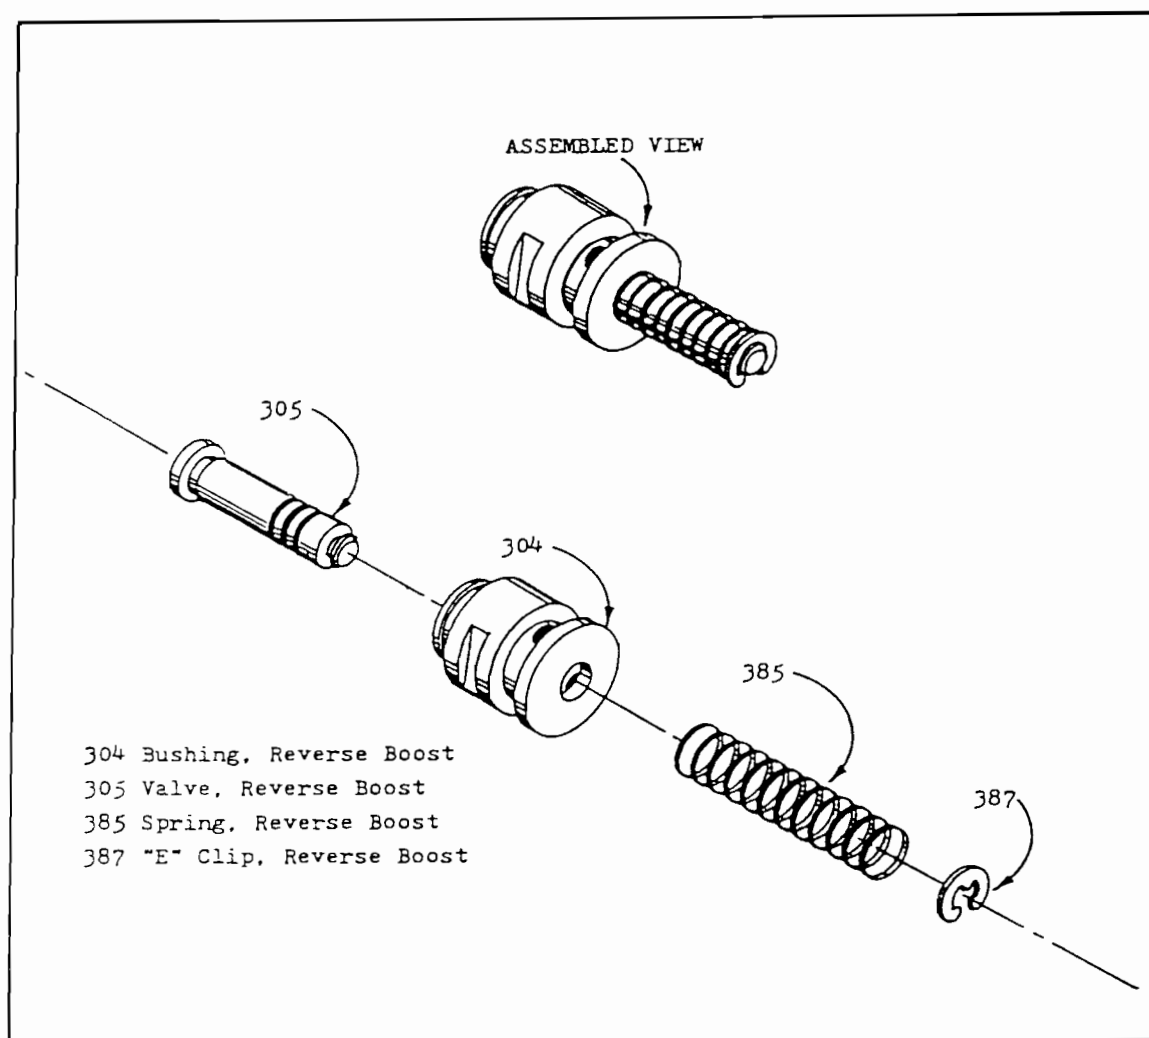

Figure 63
- CORRECTION: Remove 4 coils from the reverse boost valve spring, (385 in Figure 63). This will raise line pressure in reverse to approximately 85 PSI, which is 15 PSI higher than original and provides more holding power for the reverse band.